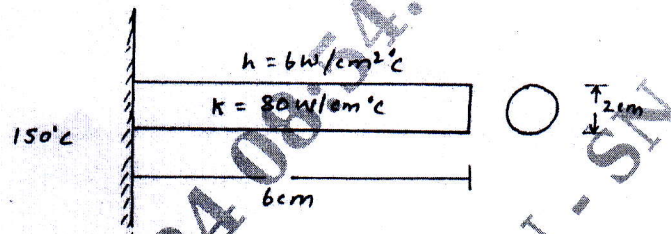

Fig. Q9 (b)
b. Find the temperature distribution in the 1D fin shown in Fig. Q9 (b).